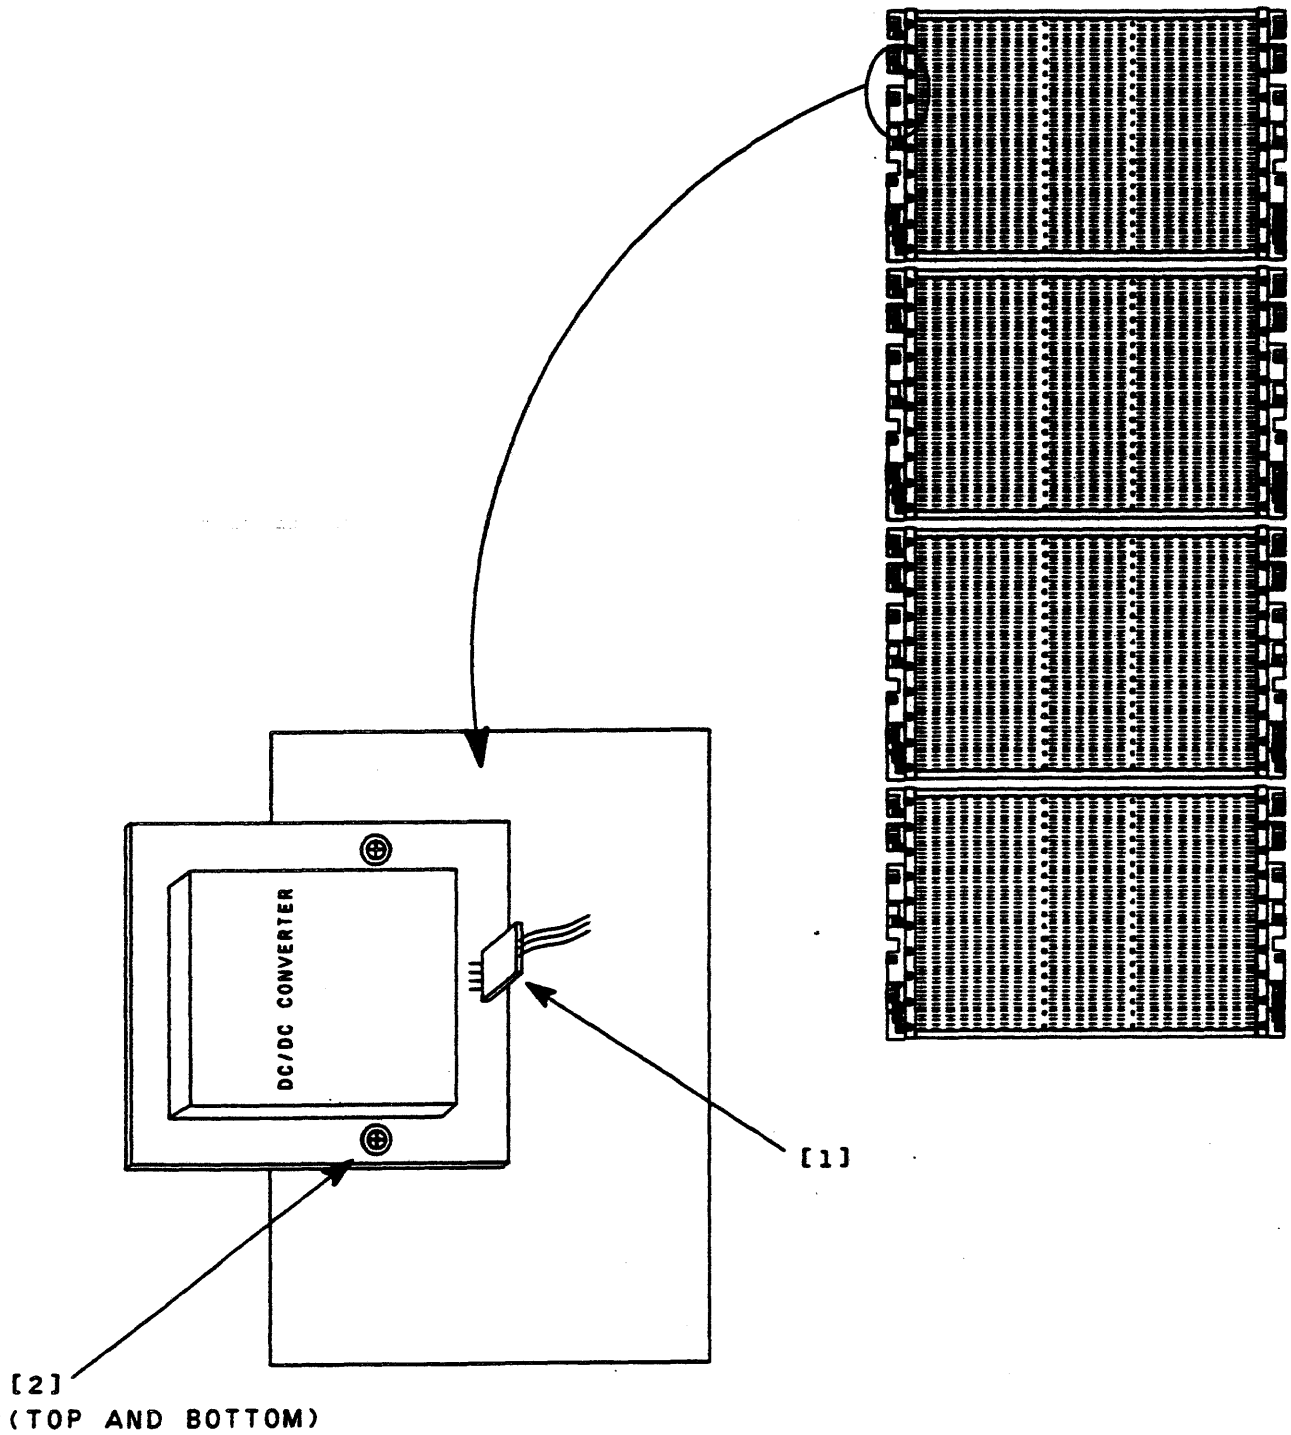

FIGURE 2.33-1. DC/DC CONVERTER REMOVAL/INSTALLATION
4. Disconnect converter's connector plug (Figure 2.33-1, [1]).
5. Using a cross-tip screwdriver, remove converter securing hardware and remove converter from backpanel (Figure 2.33-1, [2]).